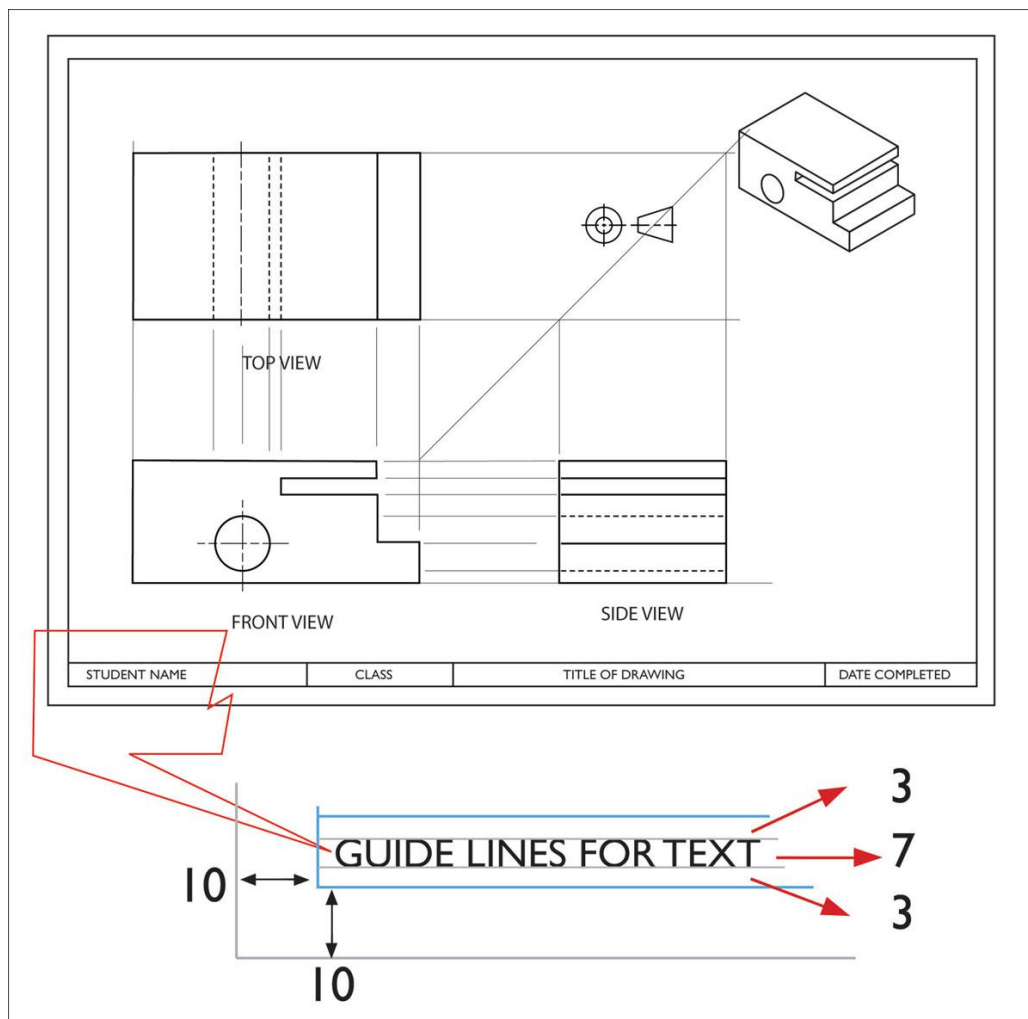

Figure 11
Figure 11 shows appropriate positioning using an A3 sheet of paper. Notice there is also an isometric view positioned in the top right-hand corner. This is often placed there to provide a connection between the two-dimensional shapes of orthogonal and more visually representative three-dimensional isometric form.
- Construction lines are very thin pencil lines or guidelines (as shown in figure 11). These assist with construction, alignment and placement, but are not formal lines and can be removed for final presentation drawings. If you are drawing using a computer use the following line thickness: